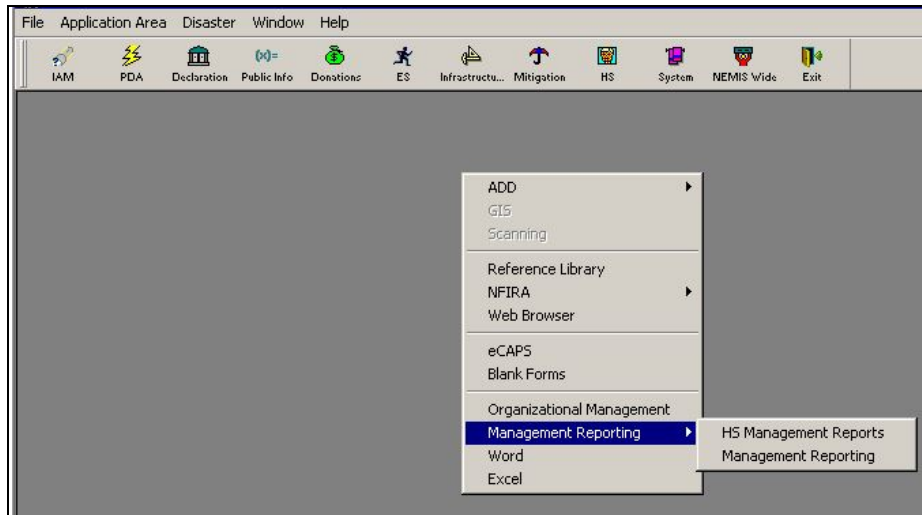

Figure 14-1: NEMIS Wide >Management Reporting >Management Reporting
1. On the NEMIS menu bar, click on NEMIS Wide > Management Reporting > Management Reporting (Figure 14-1).